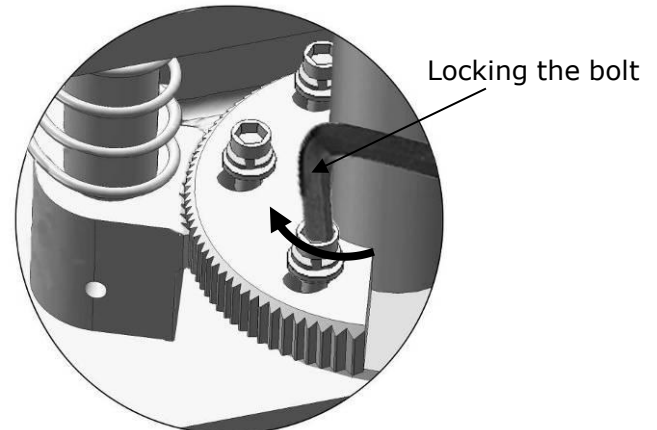

Fig. 39
4. Adjust moon gear and arm lock to make it to be meshed, then tighten the socket bolts of arm lock (See Fig. 39).